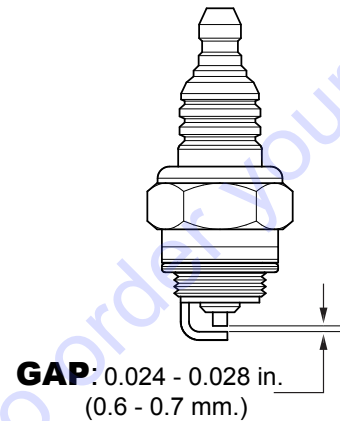

Figure 31. Spark Plug Gap
- Remove and clean the spark plug (Figure 31), then adjust the spark gap to 0.024 ~0.028 inch (0.6~0.7 mm). This unit has electronic ignition, which requires no adjustments.